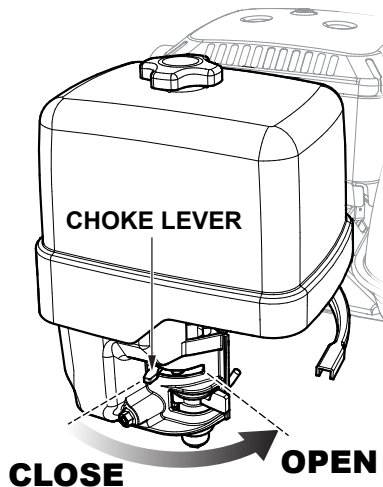

Figure 38. Choke Lever (Open)
5. If starting a warm engine, place the choke lever in the **OPEN** position (Figure 38).